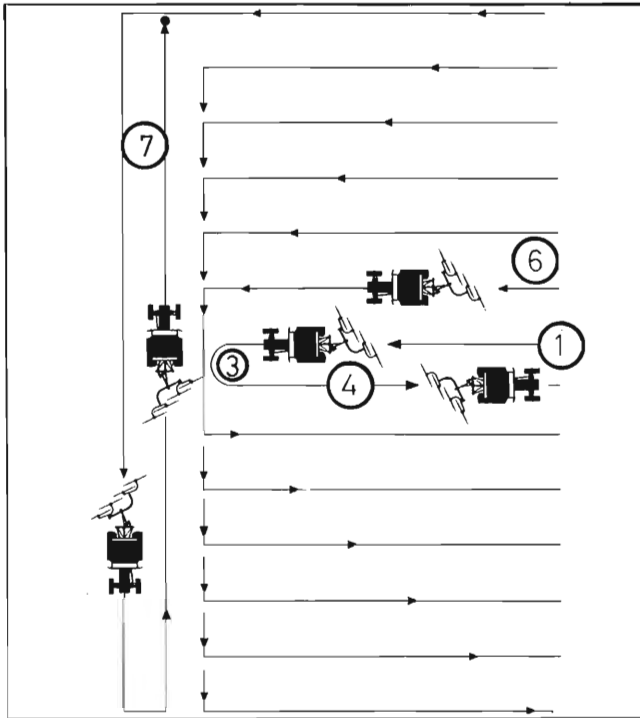
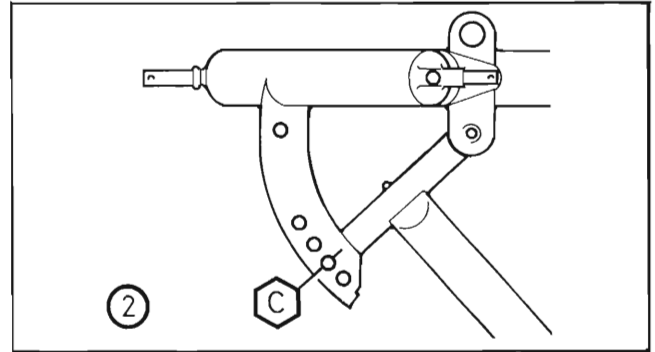

Fig. 26
Fig. 27
1. Begin in the center of the field (1 of Fig. 26). Position the Rake Main Frame in position (C) (Fig. 27). At the end of the field, turn left (3 of Fig. 26) and proceed to rake the first and second windrows together (4 of Fig. 26).
3. Rake the headlands crosswise (7 of Fig. 26).